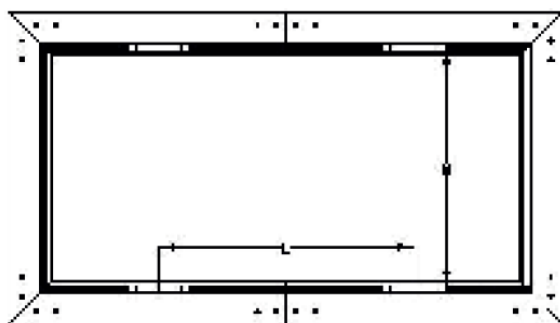

Fig 14.
1. Mount two wall brackets (I) per horizontal frame part (A). Make sure that the brackets are evenly distributed along the length (as shown in Fig. 14) and are opposite each